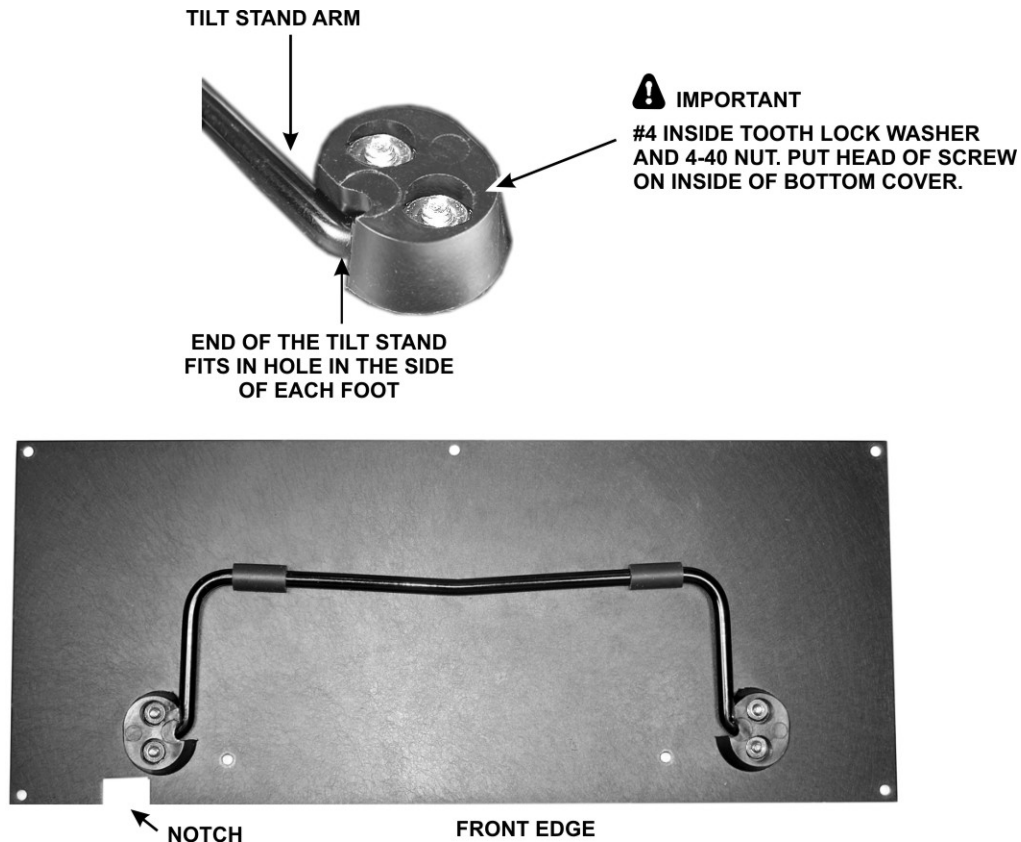

Figure 83. Installing Tilt Stand.
1. **Page 57:** Replace the third step, Figure 83, and the fourth step with the following. You can cut this out of the errata and paste it over the steps and figure in your manual.
Attach the front feet and tilt stand to bottom cover section A as follows. Insert a 4-40 7/16" (11 mm) zinc pan head screw through the cover *with the screw head on the inside*, and place a foot over the screw on the outside (fully painted) of the cover. Orient the foot as shown in Figure 83. Place a #4 lock washer and 4-40 nut on the end of the screw inside the hole in the foot, and put your finger over the hole to hold the nut against the screw. Turn the screw to start the nut onto the threads but do not tighten it. Repeat the procedure for the second screw in the foot. Leave the foot as loose as possible without the hardware falling off.
Install the tilt stand and second foot as shown in Figure 83. You may need to press the foot against the tilt stand to get the 4-40 7/16" (11mm) screws to pass through the cover and foot. Put a #4 lock washer and nut on each screw as you did before.